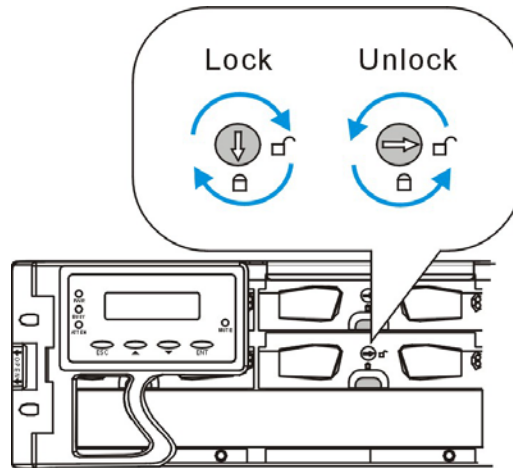

Figure 2-8: Drive Tray Key-lock Rotation
- Step 5. **Lock the flap into place** by turning the key-lock until the groove on its face is pointing down (vertical orientation). (See **Figure 2-8**)